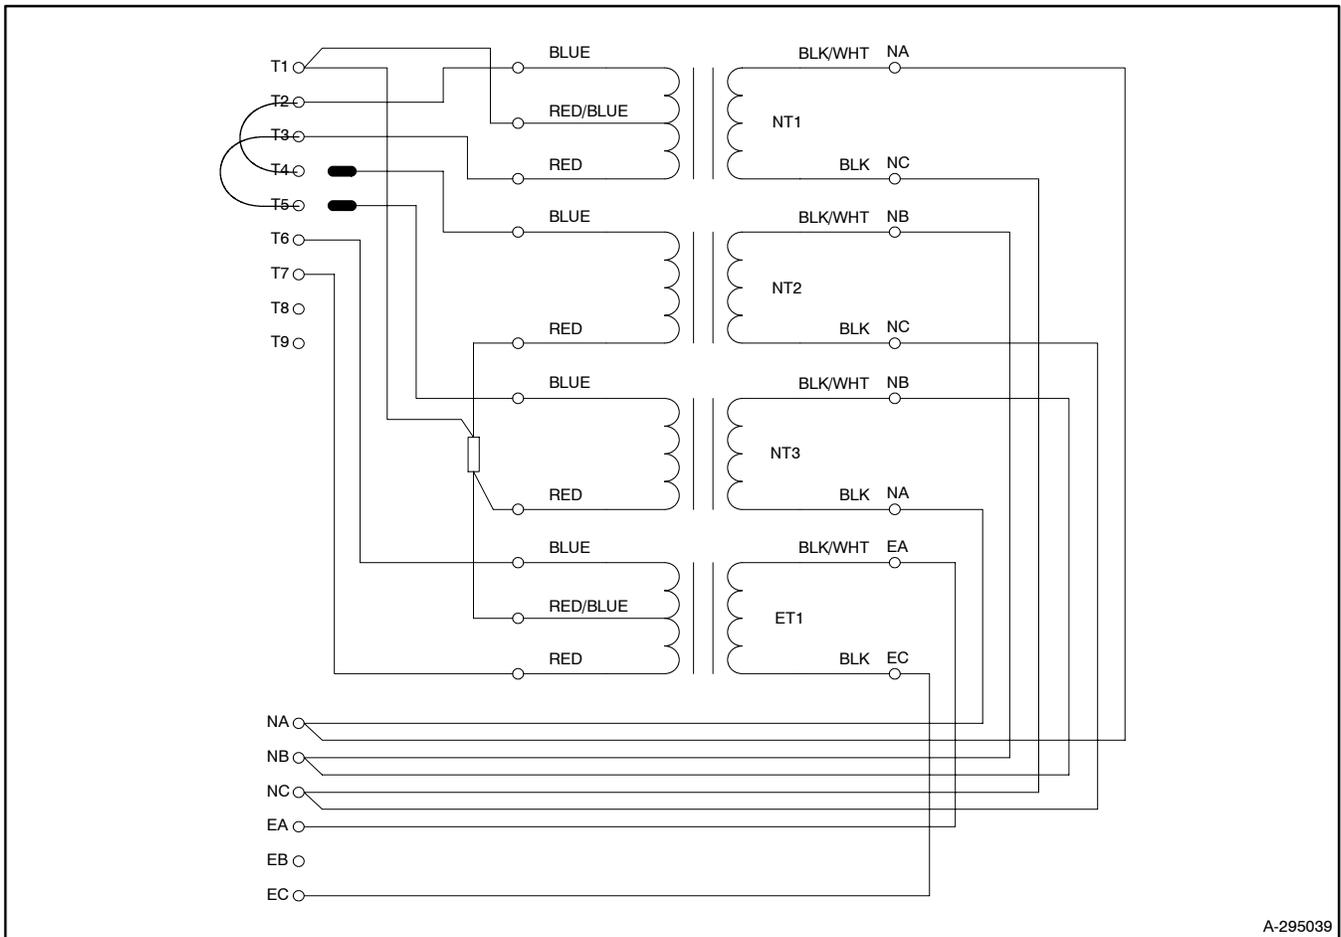

Figure 2 Rewiring a 3-Phase Normal Source, 1-Phase Emergency Source Transformer Assembly for 1-Phase Operation
7. If the switch has standard 1-phase emergency source sensing, complete the following steps. If not, proceed to step 8. See Figure 2.